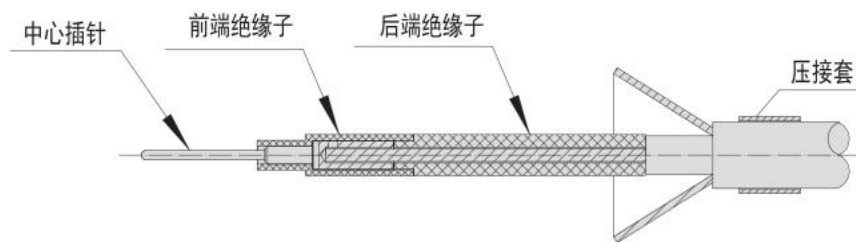

Figure 1.12
⑤ Assemble the front-end insulator on the center pin as shown in Figure 1.12, and the contact parts of the two insulators shall be tight